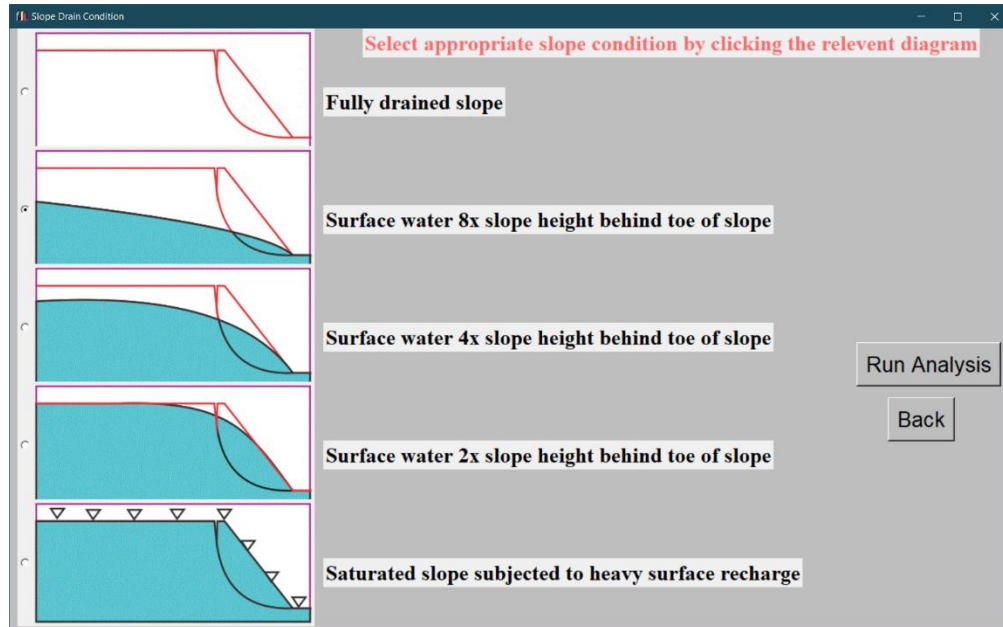

Fig. 13: The sensitivity analysis window.
3. The appropriate slope condition is chosen and Run Analysis button is clicked, see Fig. 13.